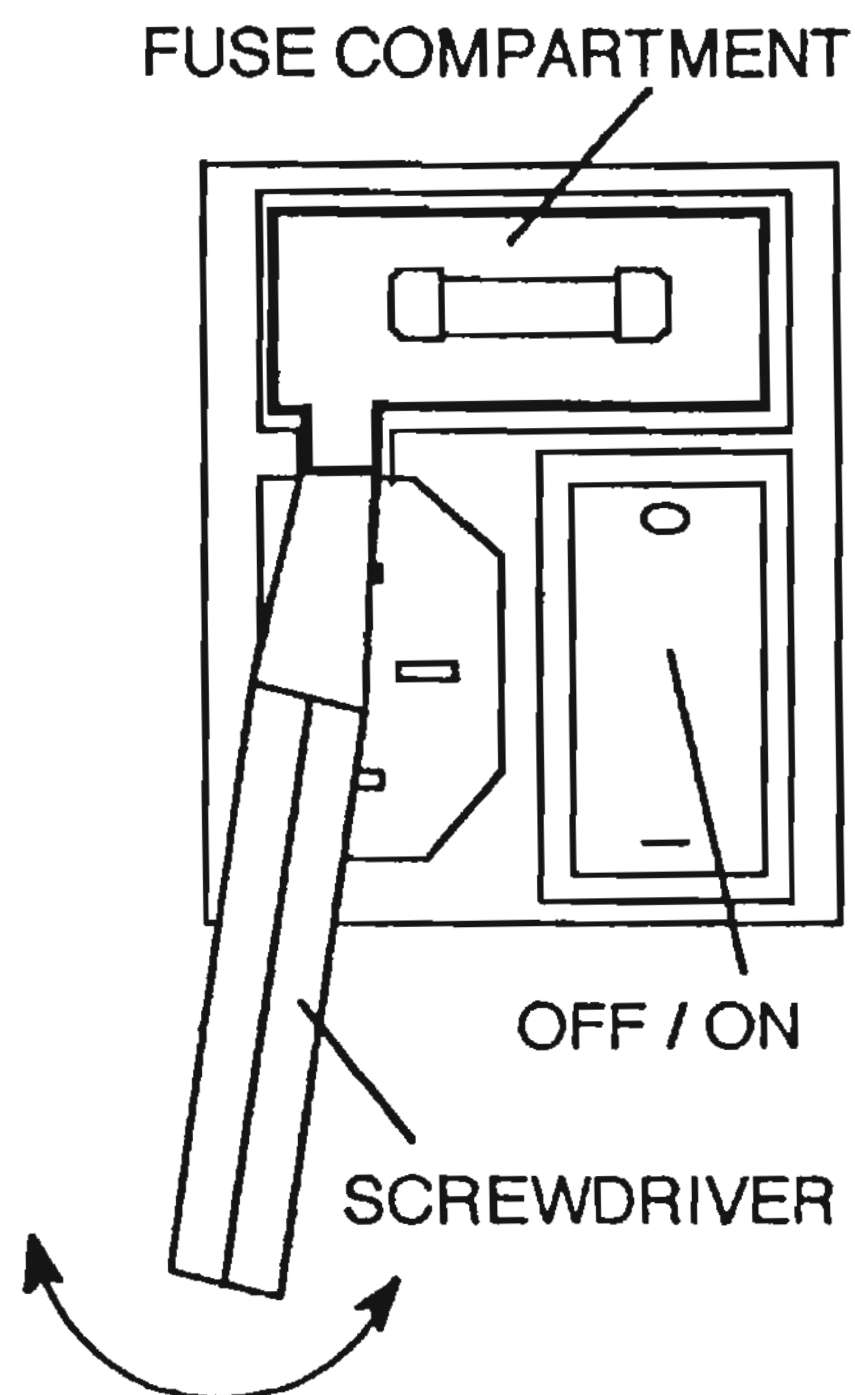

Fig 5-4
2. Carefully insert a small, flat blade screwdriver, shown in **Fig. 5-4**, and with a twisting motion, gently pry cover free to remove fuse holder.